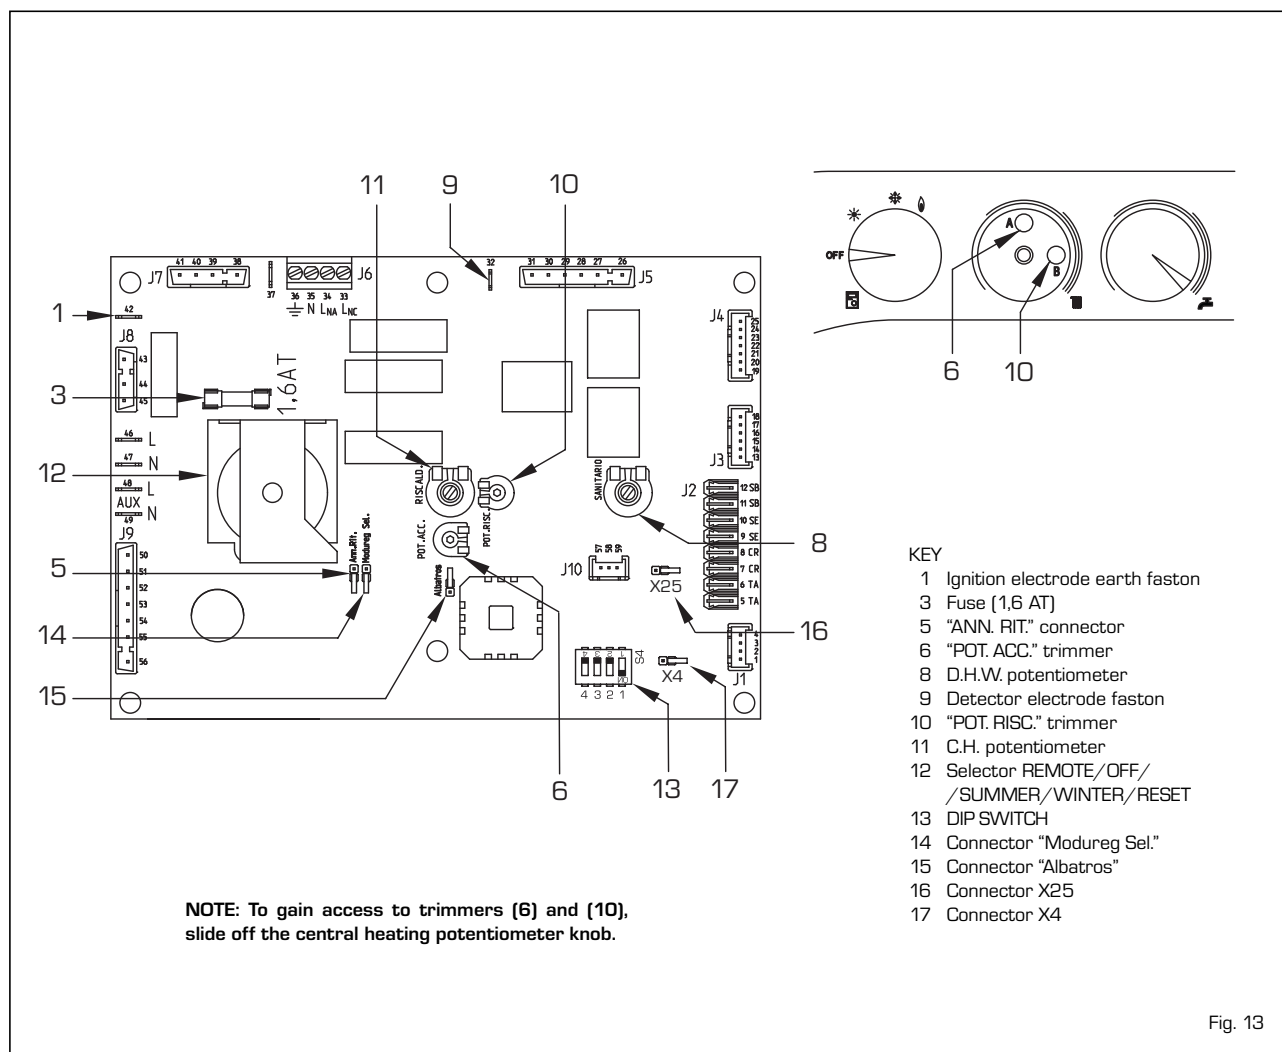

Fig. 13
– “HEATING POWER” TRIMMER [10 fig. 13]
– “IGNITION POWER” TRIMMER [6 fig. 13]
– “ANN. RIT.” CONNECTOR [5 fig. 13]
– DIP SWITCH [13 fig. 13]
– “Modureg Sel.” connector [14 fig. 13]
– “Albatros” connector [15 fig. 13]